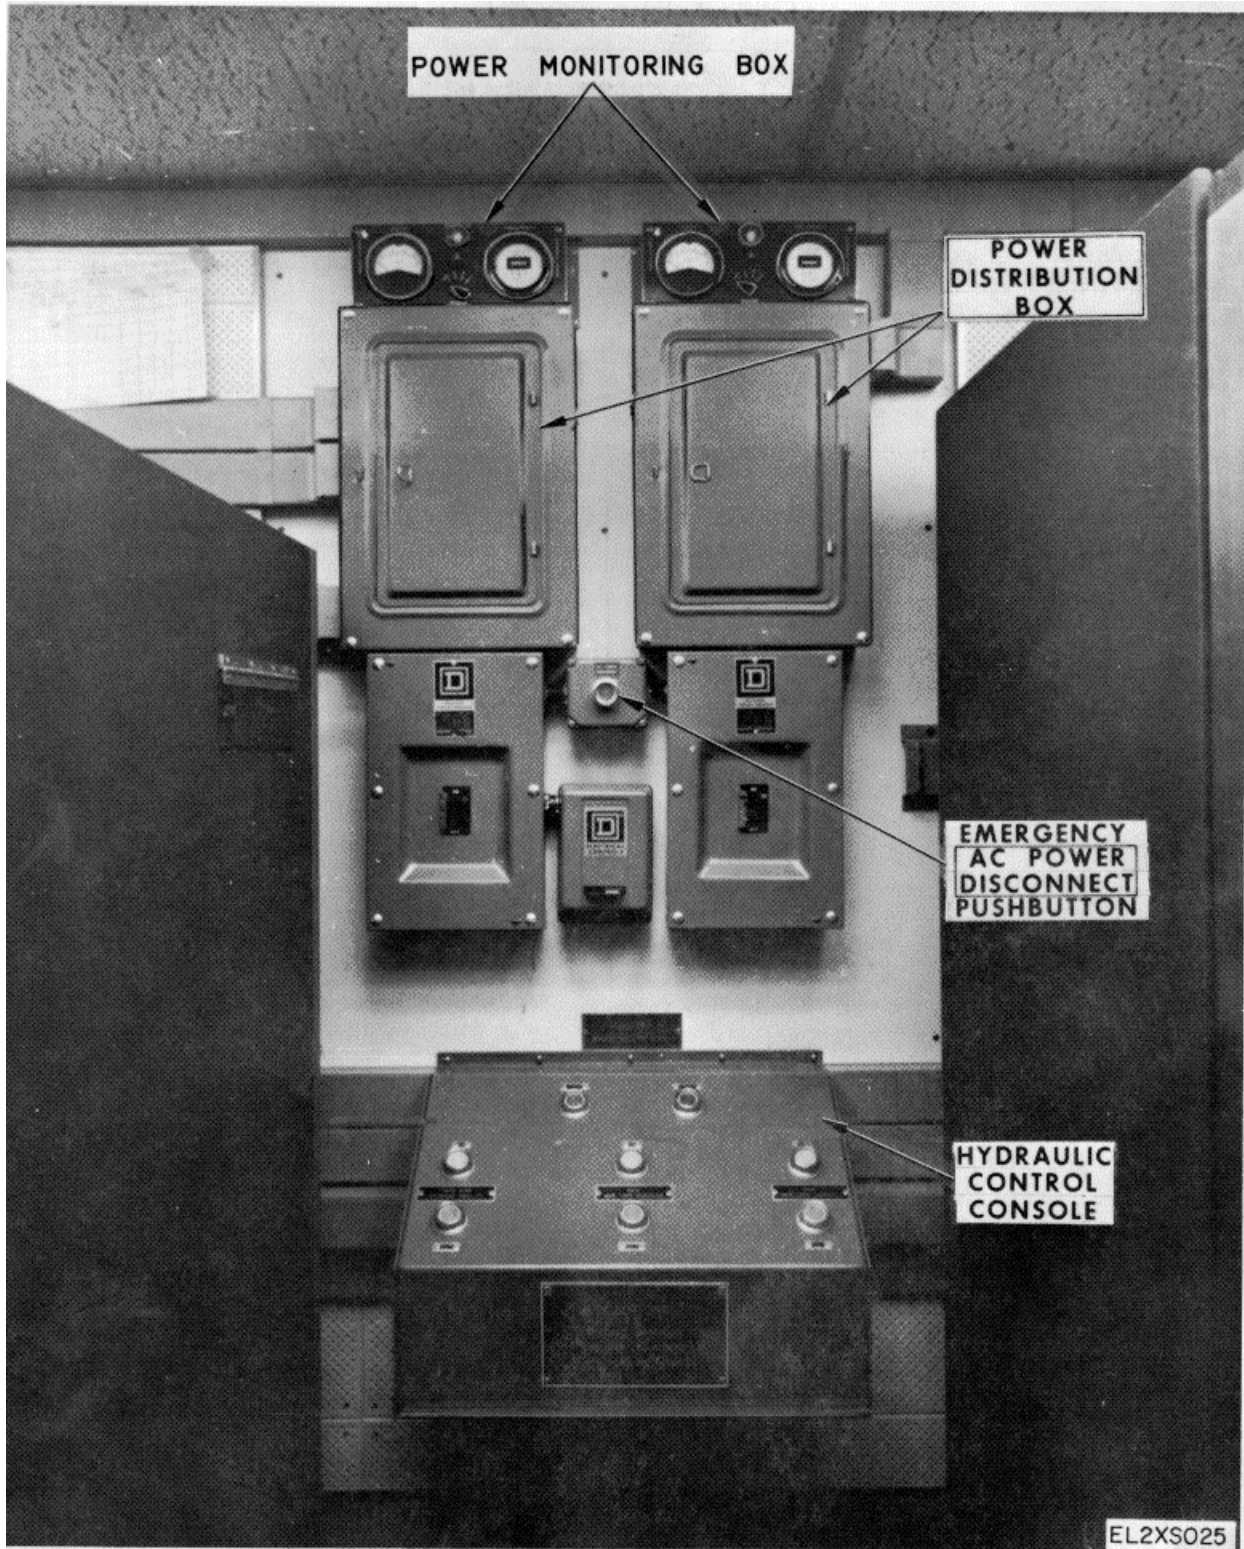

Figure 3-1. POWER DISTRIBUTION BOXES and Hydraulic Control Console for OL-89(V)3/MYK-8(V).
a. Figure 3-1 illustrates the POWER DISTRIBUTION BOXES and hydraulic controls console for OL-89 (V) 3/MYK-8 (V).
d. Figure 3-1 shows the hydraulic control console for OL-88(V)1/MYK-8(V).